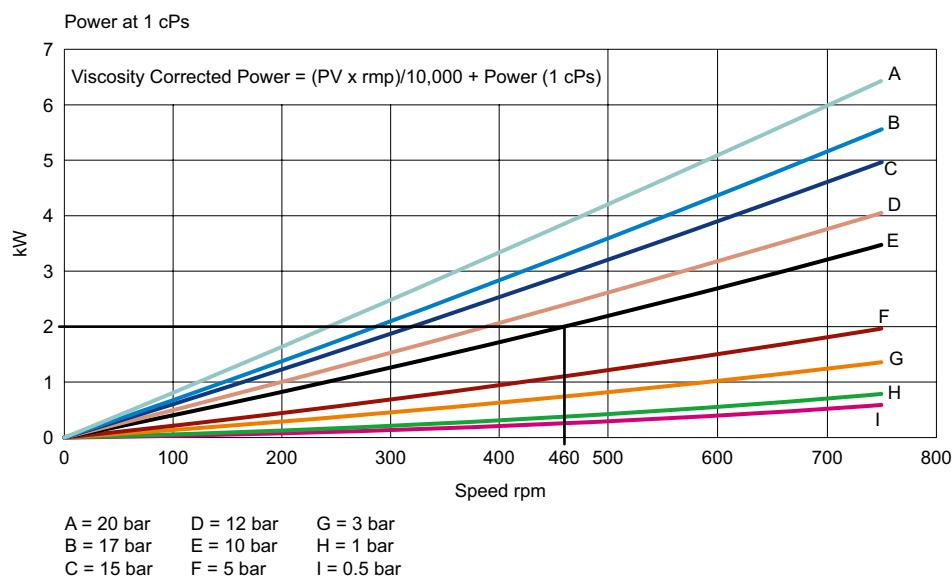

Fig. 7.6.3f
- Using the Power at 1 cPs Curve (Fig. 7.6.3f), starting at the duty speed of 460 rpm, draw a line parallel to the y-axis, until it intersects the duty pressure line (10 bar)